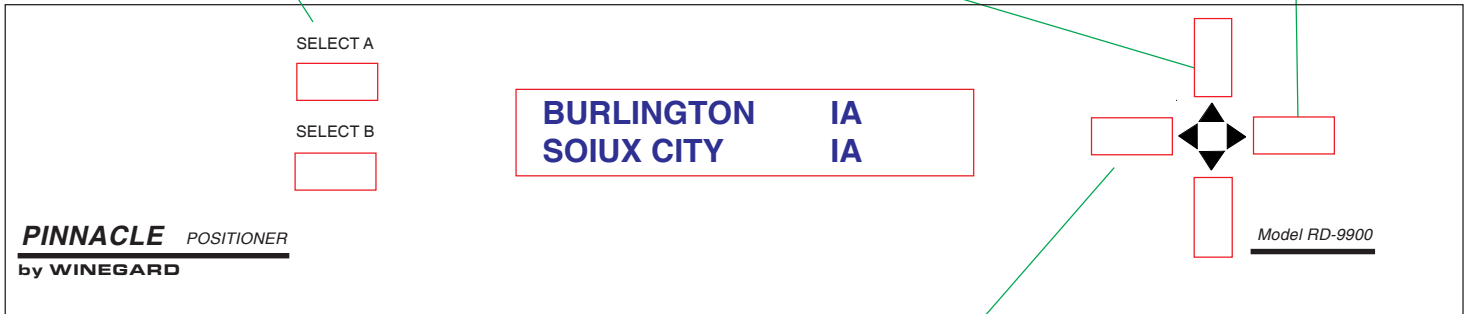

Figure 3
- Press **[UP/DOWN]** arrow buttons to scroll cities, Figure 3. The cities are listed alphabetically by state. Pressing the **[RIGHT]** arrow button will scroll the list to the first entry of the next state. Pressing the **[LEFT]** arrow button will scroll the list to the last entry of the previous state.
- Press **[SELECT A or B]** once you have scrolled to the closest city to your location, Figure 3.